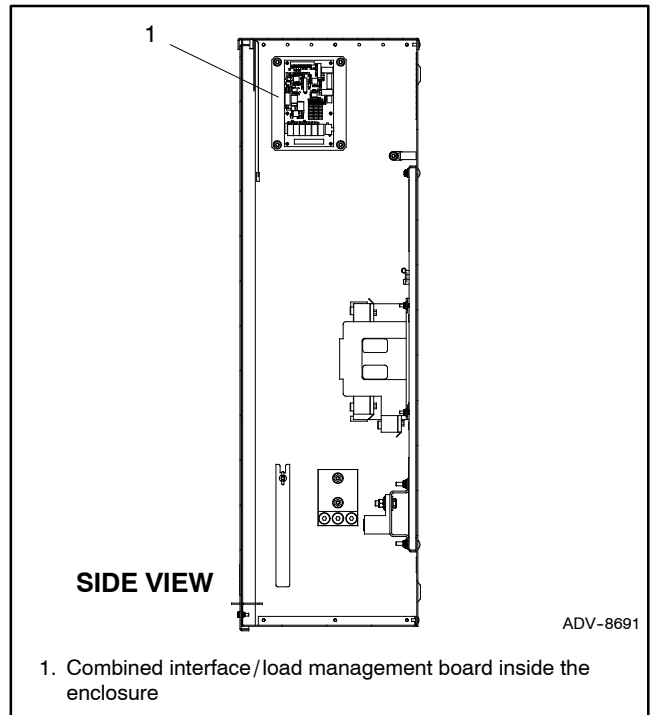

Figure 2-16 Typical Interface Board Location
7. RBUS connections: Connect the controller interface connection to A, B, PWR, and COM on terminal block P10 on the interface/load management board. See Figure 2-16 and Figure 2-18. The RBUS connections to the generator set controller are the same for the standard interface board and the combined board. See Section 2.6 for interface connection instructions.
6. Find the combined interface/load management board, which is typically mounted on the upper left side of the enclosure. See Figure 2-16, if necessary.